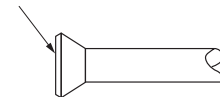

Fig. 15
- When connecting the flare nut, apply ester oil or ether oil to the inside of flared section, and turn the nut spin 3-4 times by hand before screwing in. (Refer to Fig. 15)